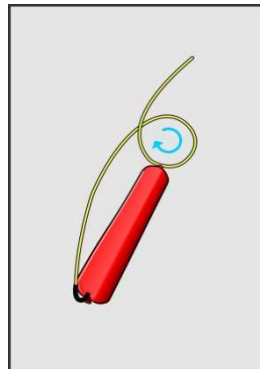

Fig. 4-5
4. Prepare a Shock Tube loop. (Fig. 4-5)